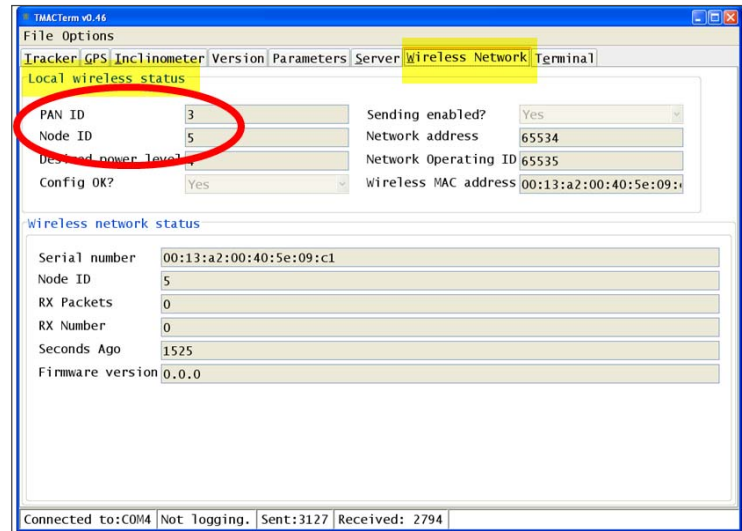

Fig. 26
15. In the Wireless Network screen, verify that the **PAN ID** and **Node ID** values under **Local wireless status** are the PANID and NODEID decimals, respectively, specified in the project drawings (Fig. 26).